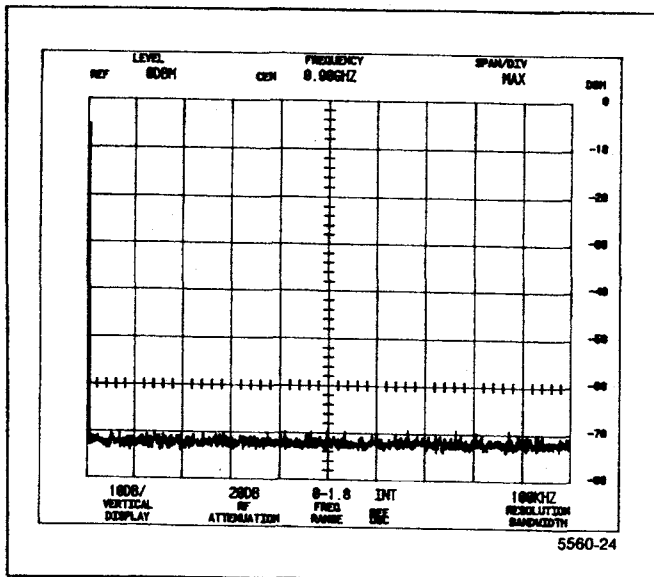

Figure 4-1. Crt display at initial power-up.
c. The microprocessor runs a memory and I/O test. If no processor system problems are found, the power-up program will complete in approximately 10 seconds, and the instrument will be ready to operate. After the power-up routine, the crt will initialize as shown in Figure 4-1.